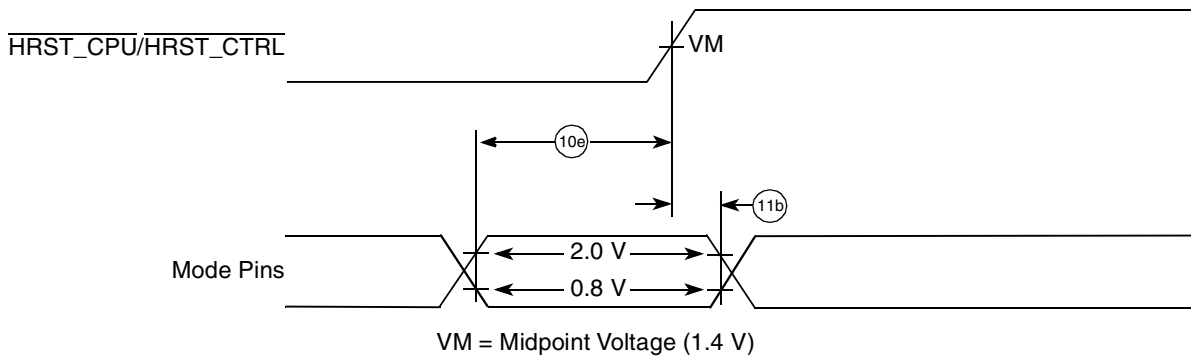

Figure 13. Input Timing Diagram for Mode Select Signals
- All mode select input signals specifications are measured from the TTL level (0.8 or 2.0 V) of the signal in question to the  $\text{VM} = 1.4$  V of the rising edge of the  $\overline{\text{HRST\_CPU/HRST\_CTRL}}$  signal. See Figure 13.
Figure 13 shows the input timing diagram for mode select signals.